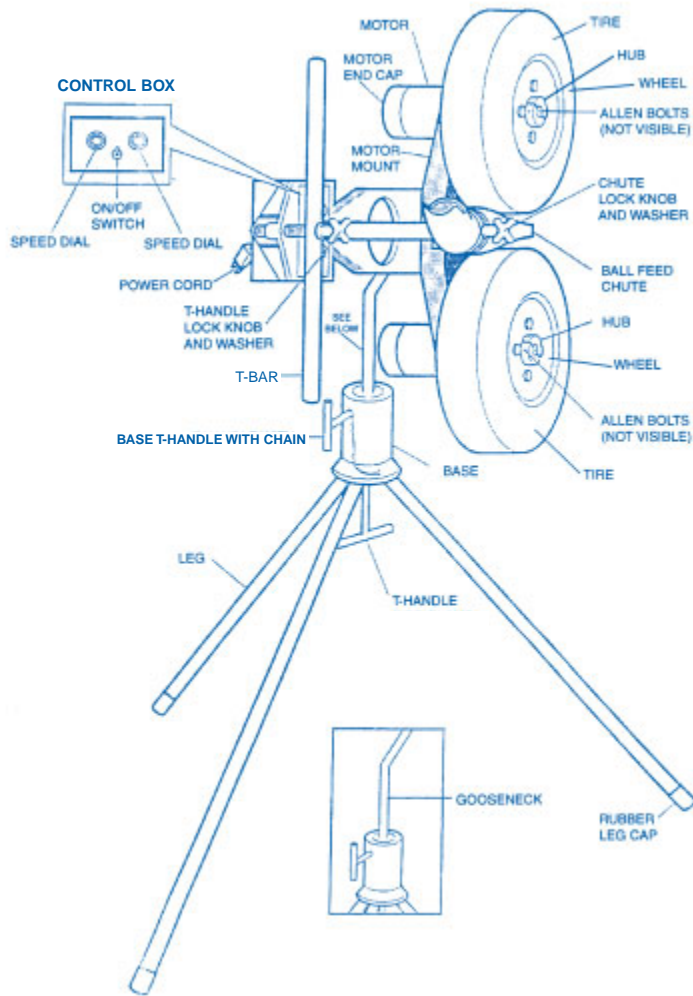

Figure 3
- Make sure you have all the parts (See Figure 3). If any parts are missing, do not operate the machine until the missing parts are replaced. Failure to do so could result in possible serious personal injury.
1. With the tire side down, place the triangular leg clamp in the leg clamp casting (see Figure 3.)
2. Loosen Handle Bar lock knob (Figure 3) and adjust until desired trajectory is attained, then tighten securely. For fine adjustments, loosen lock knob slightly and adjust Handle Bar down, or sideways. (It is normal to throw five or six test balls before arriving at the curve setting and aim point you desire.) Always have the batter and others stand clear while adjusting your JUGS pitching machine and throwing test balls.